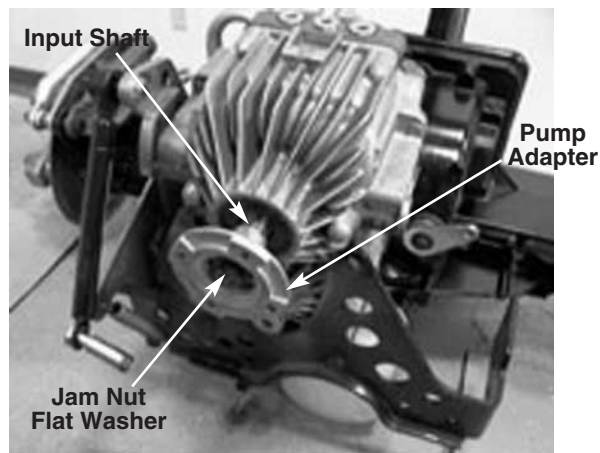

FIGURE 1.
1. Inspect the pump adapter to be certain that it is turning the hydraulic input shaft. See figure 1.
2. Inspect the center hex jam nut and flat washer on the pump adapter to be certain that it is not loose. See figure 1.